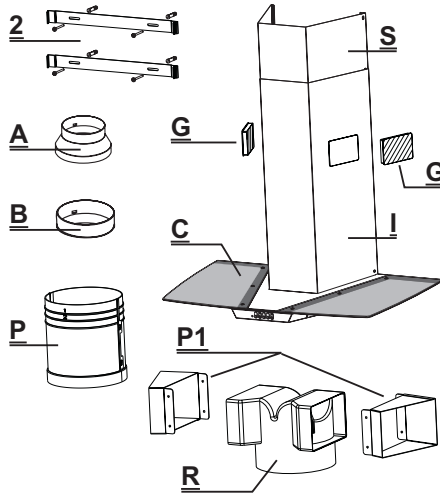

Fig. 5
**The hood is supplied with the following components for installation as illustrated in Fig. 5:**
- Ducting spigot 150 to 120mm (A)
- Ducting flange 120 to 125mm (B)
- Canopy (C)
- 2 Recirculation grilles (G)
- Lower chimney stack 728.5mm (I)
- Recirculation ducting (P)
- Recirculation spigot (R)
- Upper chimney stack 215mm (S)
- Wall fixing brackets (2)